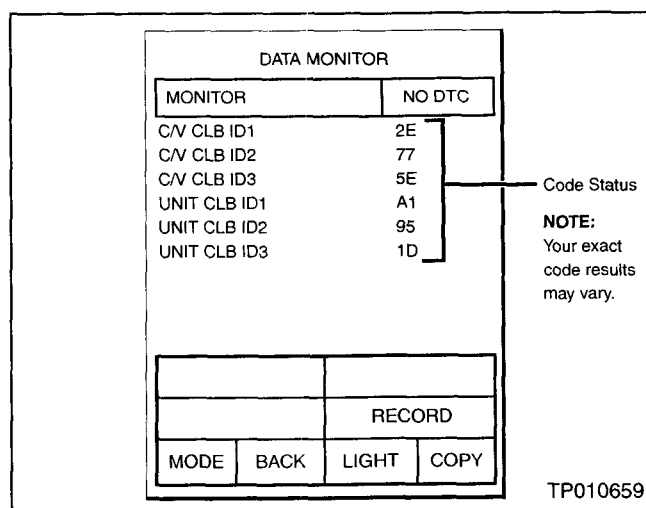

Figure 16
59. Confirm the status of the codes (see Figure 16):